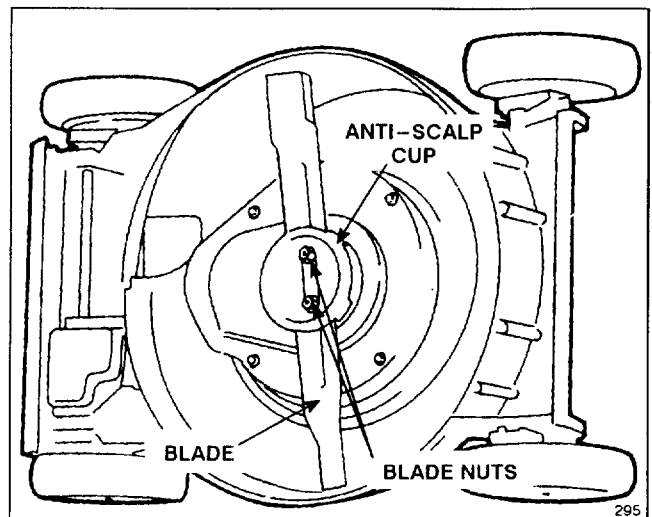

Figure 18
3. Tip mower on its left side (Fig. 18).
5. REMOVING BLADE—Grasp end of blade using a rag or thickly padded glove. Remove blade nuts, anti-scalp cup, blade, blade spacer, and rotating screen (Fig. 18 & 20).